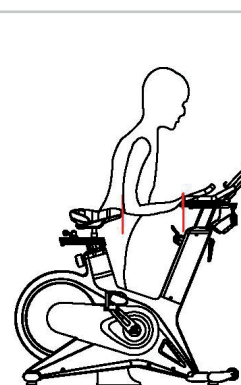

FIGURE 7
4. Adjust the handlebar, the distance between the seat cushion and the handlebar is equal to the length of your forearm. As shown in Figure 7.